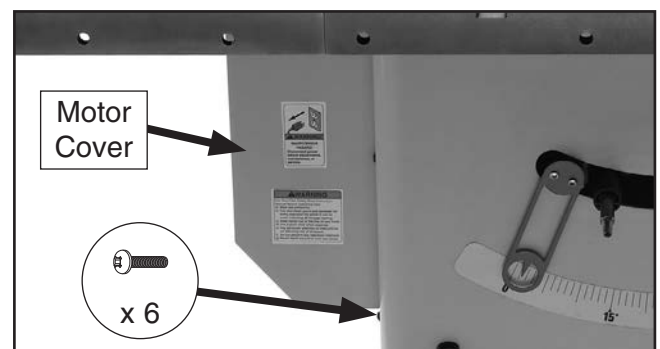

Figure 18. Motor cover installed.
4. Attach motor cover to cabinet using (6) Phillips head screws (see **Figure 18**).